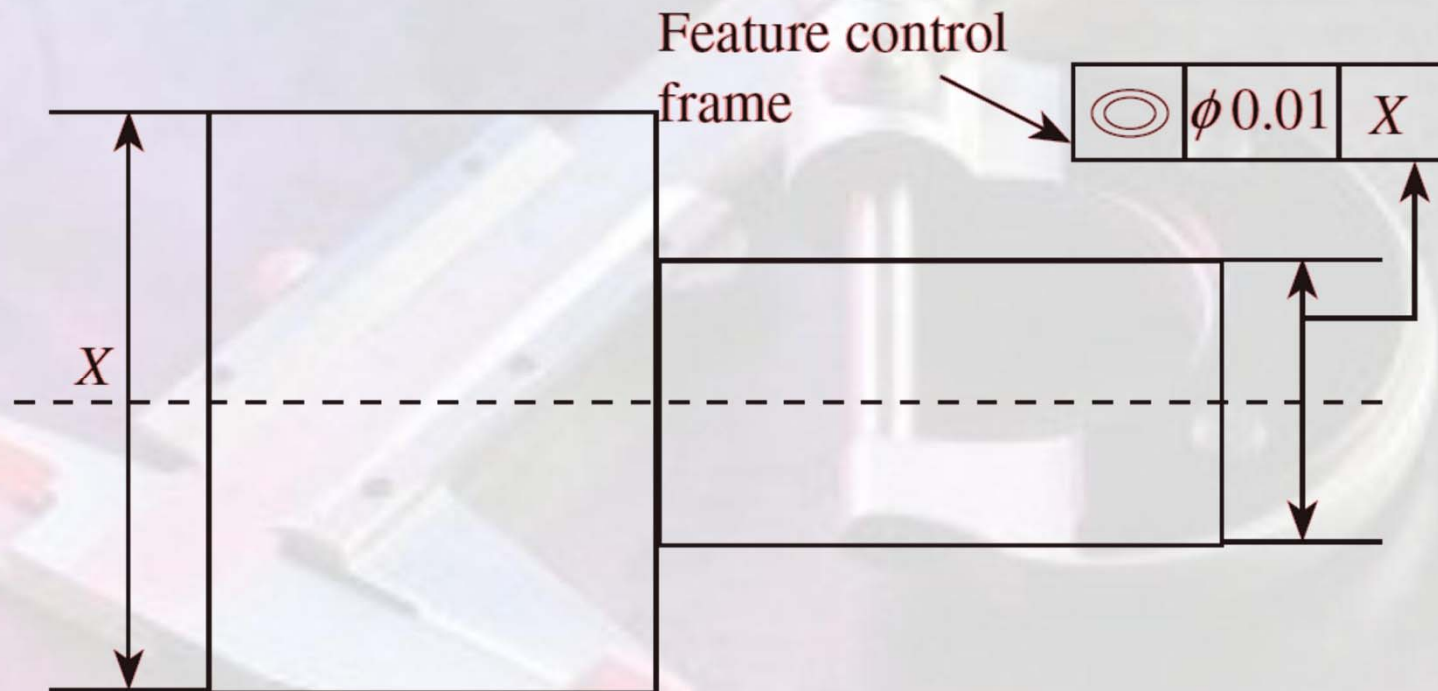

Fig. 3.5 Representation of geometric tolerance
- ✓ Geometric tolerances are used to indicate the relationship of one part of an object with another. Consider the example shown in Fig. 3.5.